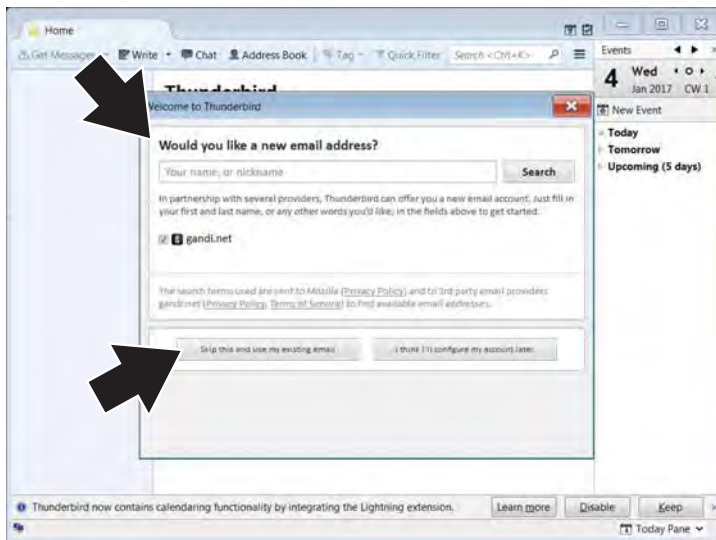

Figure 11-12
4. Choose to use your existing email address, or create a new email address with the email client (Figure 11-12).